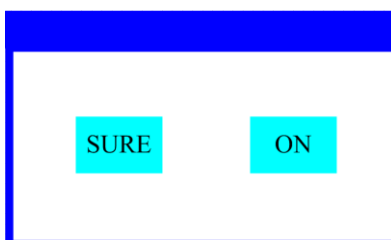

Figure 5 Confirm input window
- The determination of important Boolean parameters will be set through the determination window, as shown in Figure 5 below: